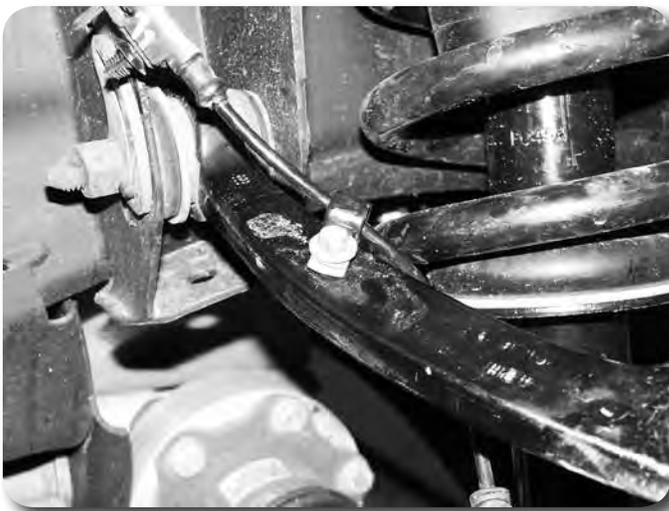

Figure 37
70. Attach the ABS line to the upper control arm with the original brake line mounting bolt and provided wire clamp **Figure 37**.